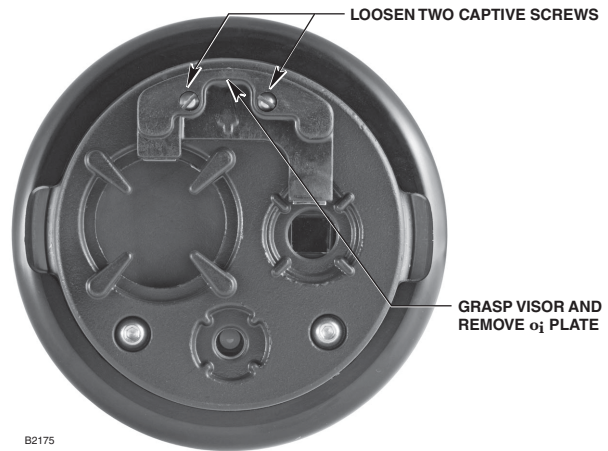

Figure 17—**oi** Plate Removal
2. Loosen the two captive screws, then grasp the **oi** plate by the visor and remove it from the detector. See Figure 17.